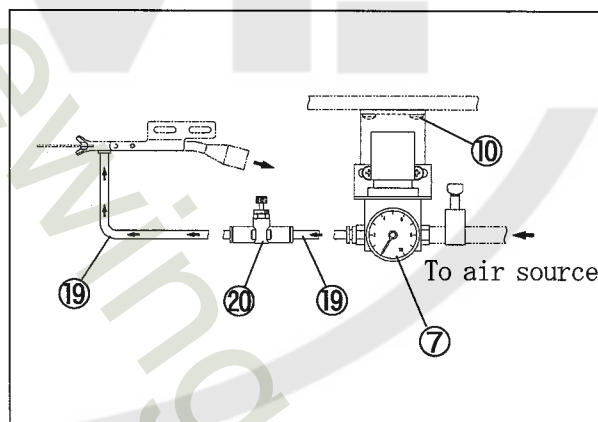
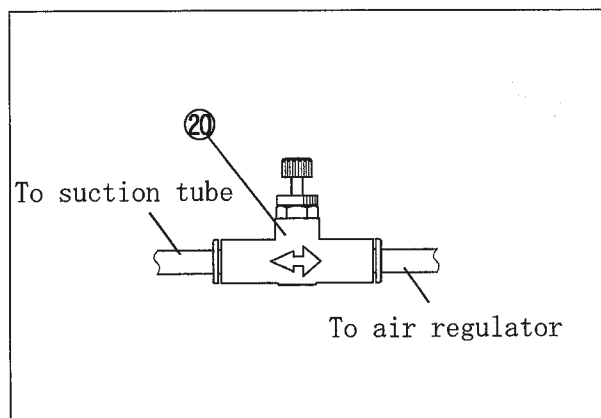

Fig. 6
Fig. 7
- (8) Connect the air pipe ⑲ referring to Fig. 6. Check if the inline speed controller is set correctly. (Fig. 7)